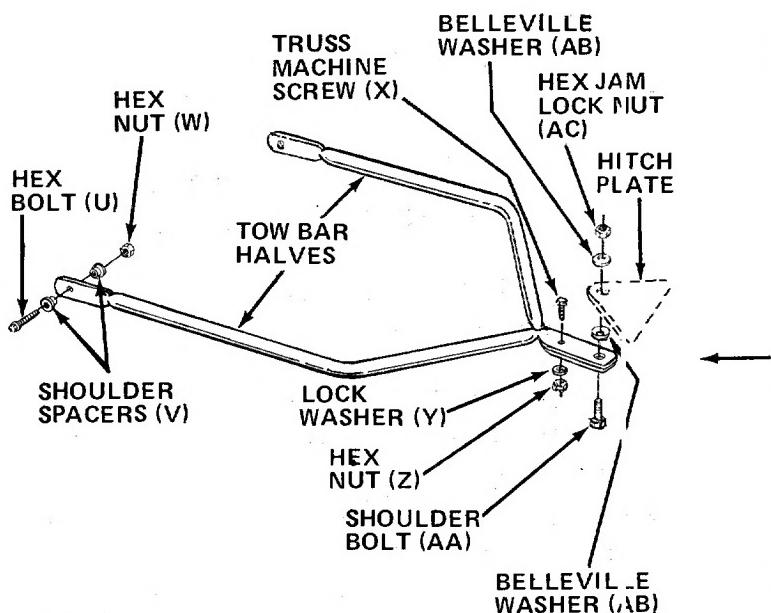

FIGURE 15
2. Place two bar halves in position on frame. Place one shoulder spacer (V) between frame and tow bar. Next, place shoulder spacer (V) and hex bolt (U) through tow bar and frame. Secure with hex nut (W). See figure 15. Repeat for other side.
3. Secure the two tow bar ends together with truss machine screw (X), lock washer (Y) and hex nut (Z). See figure 15.
To attach the tow bar to a hitch, place the shoulder bolt (AA) up through the tow bar. Place one belleville washer (AB) on the shoulder bolt, then the hitch plate and the other belleville washer. Cuffed side of the washers must be against the hitch plate. Secure with hex jam lock nut (AC). See figure 15.